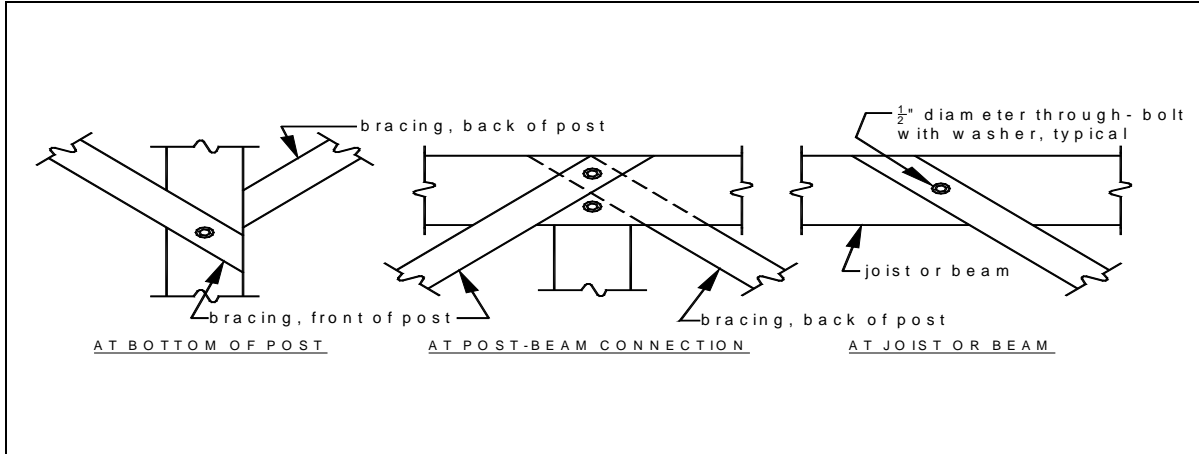

FIGURE 25: TYPICAL CONNECTIONS OF DIAGONAL MEMBERS
- Connection of diagonal bracing shall be in accordance with FIGURE 25.